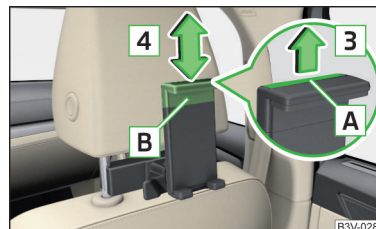

Fig. 126 Adjusting the holder size
- Pull out the securing tab **A** in the direction of arrow **3** and move part **B** in direction of arrow **4** to the desired position » Fig. 126.